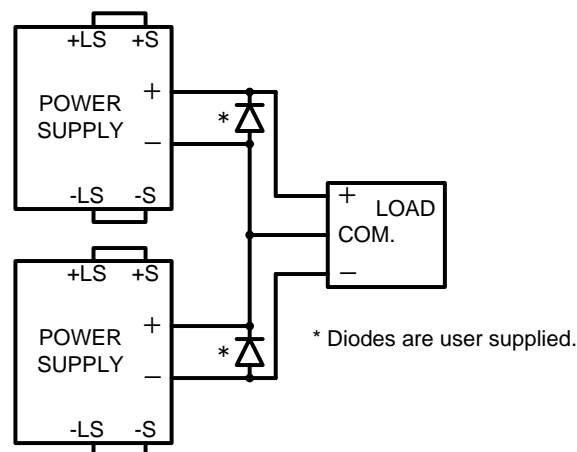

Fig.4-3: Series connection for positive/negative output voltages
- ◆ Refer to Fig.4-3 for this operating mode.